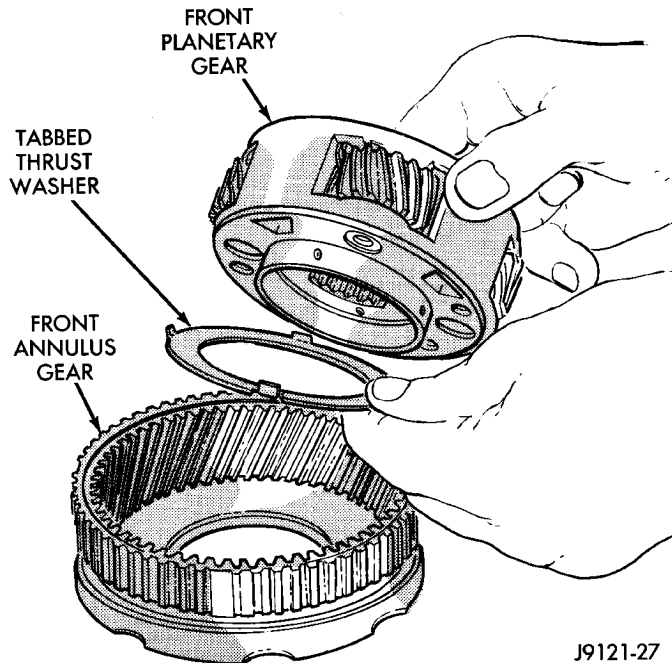

Fig. 175 Disassembling Front Planetary And Annulus Gears
(3) Remove front planetary gear and thrust washer from front annulus gear (Fig. 175). Note thrust washer position for assembly reference.